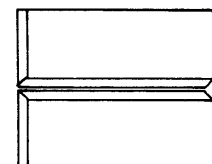

Figure 2.1
2. Position the metal so that the joint to be welded will be in the horizontal position. (See Figure 2.1.)